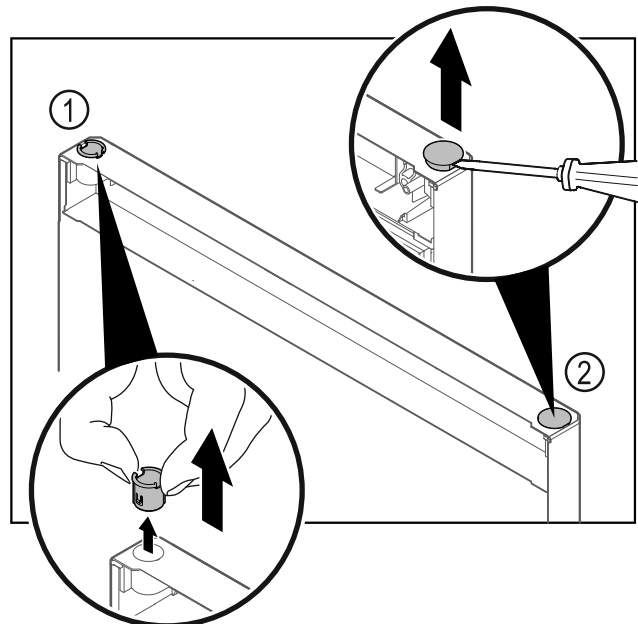

Fig. 17 Fridge compartment door
- ▶ Pull out the hinge bushing Fig. 17 (1) with your fingers.
- ▶ Carefully lift the cover plug Fig. 17 (2) with a slotted screwdriver and pull it out.